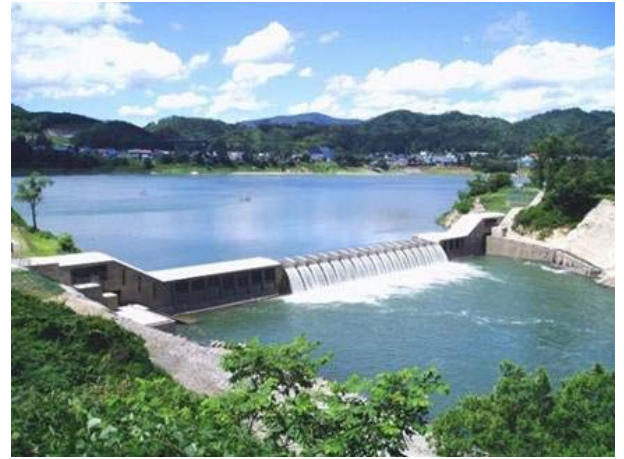

Fig.5-3 Yuda Dam
- Yuda Dam in Iwate Pref.(Fig.5-3)